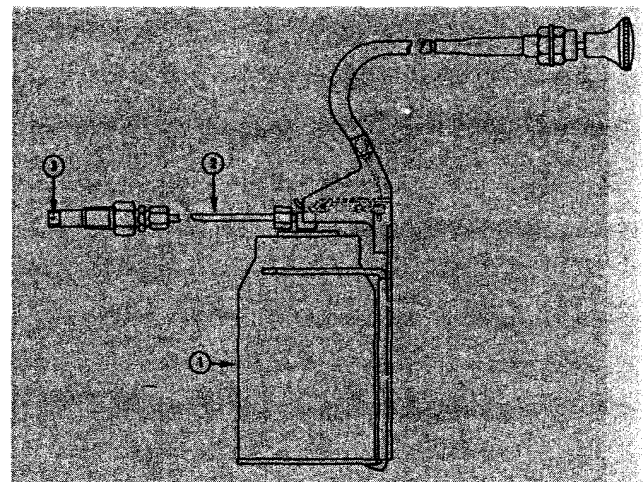

Fig. 1-15, (V11469). Starting fluid spray applicator
Spray nozzle assembly consists of a control knob operated from pilot house, a flexible cable and cable housing attached to container, bracket mounted on bulkhead (1, Fig. 1-15). Pulling knob, in pilot house, releases spray through a small plastic hose (2) into spray nozzle (3) located in intake crossover connection or air intake manifold. Small orifice holes in spray nozzle must be positioned to allow fluid to spray into both left bank and right bank intake manifolds of V type engines.